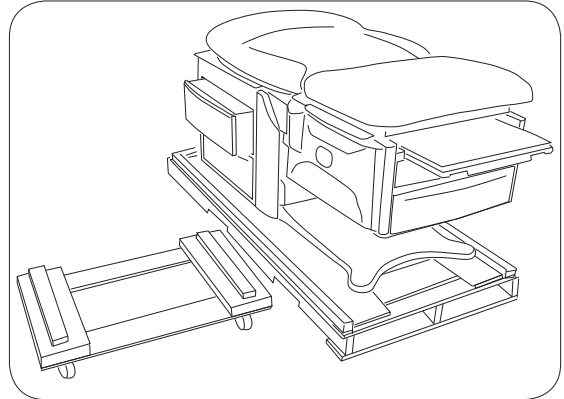

Figure 12 Furniture dolly ready for table
14. Position furniture dolly close to pallet for transfer of table (figure 12).